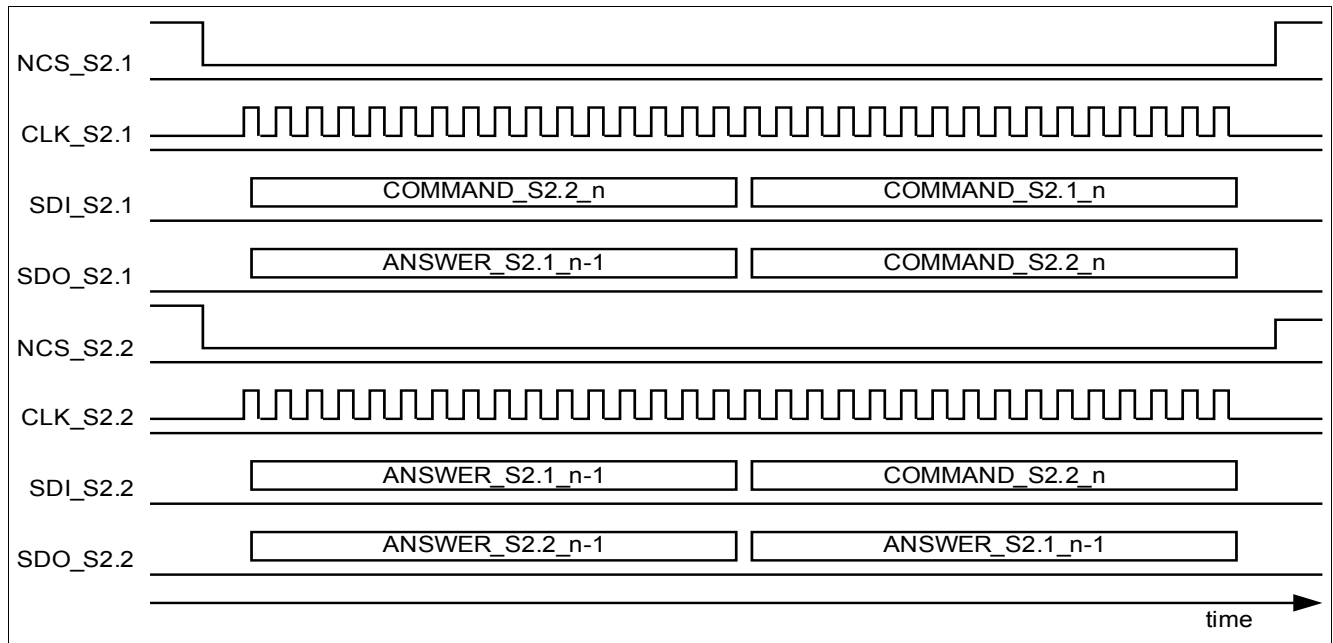

**Figure 20** Example for daisy chain signal diagram
**Figure 20** shows the whole signal diagram. It is important that NCS\_S2.1 and NCS\_S2.2 stay at the low level during the complete transmission. Therewith the sensor is able after receiving more than 16 clock pulses without a change in the NCS signal to switch automatically in daisy chain mode (in this example the first received 16 bit input data by the sensor S2.1 will be clocked to the output of sensor S2.1 with the last 16 clock pulses).